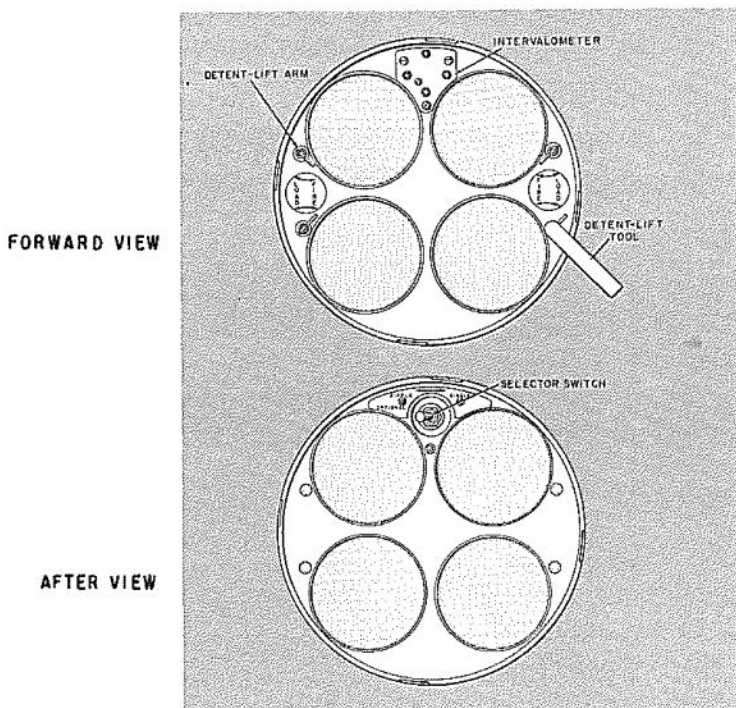

FIG. 17. Forward and After View of the Launcher.
through the intervalometer (Figure 17). The intervalometer, located in the center-section forward retainer ring, is so designed that when single-fire is employed, the intervalometer fires one rocket on each ignition pulse from the aircraft. When ripple-fire is employed, the intervalometer converts the ignition pulse into a ripple pulse and fires all rockets at approximately 100-millisecond intervals. It is necessary to keep the firing circuit energized continuously for 0.5 second to ensure a complete fire-out on ripple firing. When the intervalometer has made a complete four-round firing cycle, it automatically homes on the original starting point (ZERO) and will not recycle without first de-energizing the circuit, then re-energizing it. The intervalometer contacts are so arranged that when the intervalometer is at rest or stopped, the rocket squib leads are shorted.
8. Set the selector switch on the launcher to **RIPPLE-OPTIONAL** or **SINGLE** position (Figure 17) as indicated by the type of aircraft or mission.